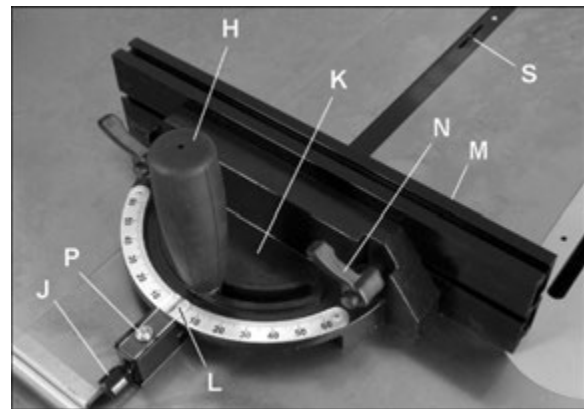

Figure 8-2
Refer to Figures 8-2, 8-3, 8-3B, and 8-3C.
2. Loosen lock handle (H, Figure 8-2) by turning counterclockwise.
3. Pull out spring-loaded knob (J) and rotate knob until body (K) of miter gauge is at desired angle as indicated on scale.
4. Tighten lock handle (H).
The miter gauge fence (M, Figure 8-2) can be adjusted by sliding to right or left or removed entirely.
2. Set miter gauge at 90° to blade (0° setting on scale) by loosening lock handle (H, Figure 8-2), then pulling out spring-loaded knob (J) and turning body (K) until 0° is indicated on scale.
NOTE: The miter gauge bar has two slots with set screws (S, Figure 8-2). Adjust these set screws to eliminate any play between bar and miter slot.